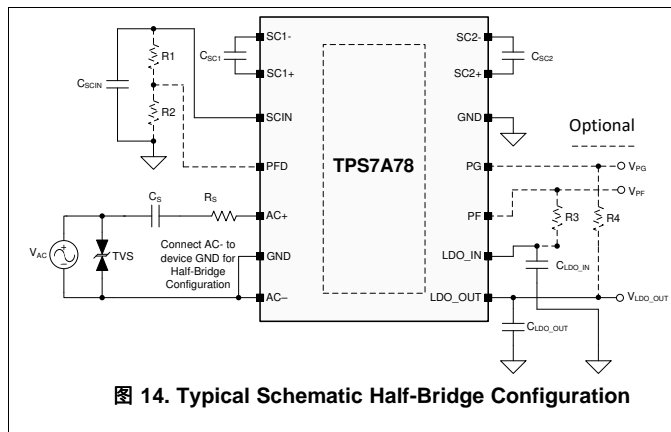

图 14. Typical Schematic Half-Bridge Configuration
7.3.2 Full-Bridge (FB) and Half-Bridge (HB) Configurations
The TPS7A78 can be configured to operate either in full-bridge (FB) or half-bridge (HB) configurations. HB configuration ties the AC input pin without the series C_S and R_S components to the device GND pins. See Figure 14 and Figure 15 for the HB and FB configurations.
The TPS7A78 can monitor the rectified DC voltage at the SCIN pin to provide the application with an early warning via the power-fail (PF) pin if the main power fails. An external resistor-divider network connected to the VSCIN pin provides the input to the power-fail detect (PFD) analog input pin to monitor for an AC line supply failure. When the AC supply falls below its minimum level programmed by the resistor divider R_1 and R_2 , as illustrated in 图 14 and in 图 15, the PF output is pulled low. If this feature is not used, omit R_1 and R_2 and connect PFD and PF pins to the device GND pins reference.
The TPS7A78 is a non-isolated smart AC/DC linear-voltage regulator capable of providing a maximum 120-mA load current; see 图 14 and 图 15 for the HB and FB configurations, respectively.
All the capacitors illustrated in 图 14 or 图 15 are required for proper operation. The value of C_S required to support the application current is obtained from the Calculating the Cap-Drop Capacitor \$C_S\$ section. The chosen C_S capacitor must tolerate the peak V_{AC} supply voltage of the application and meet the required safety requirements.